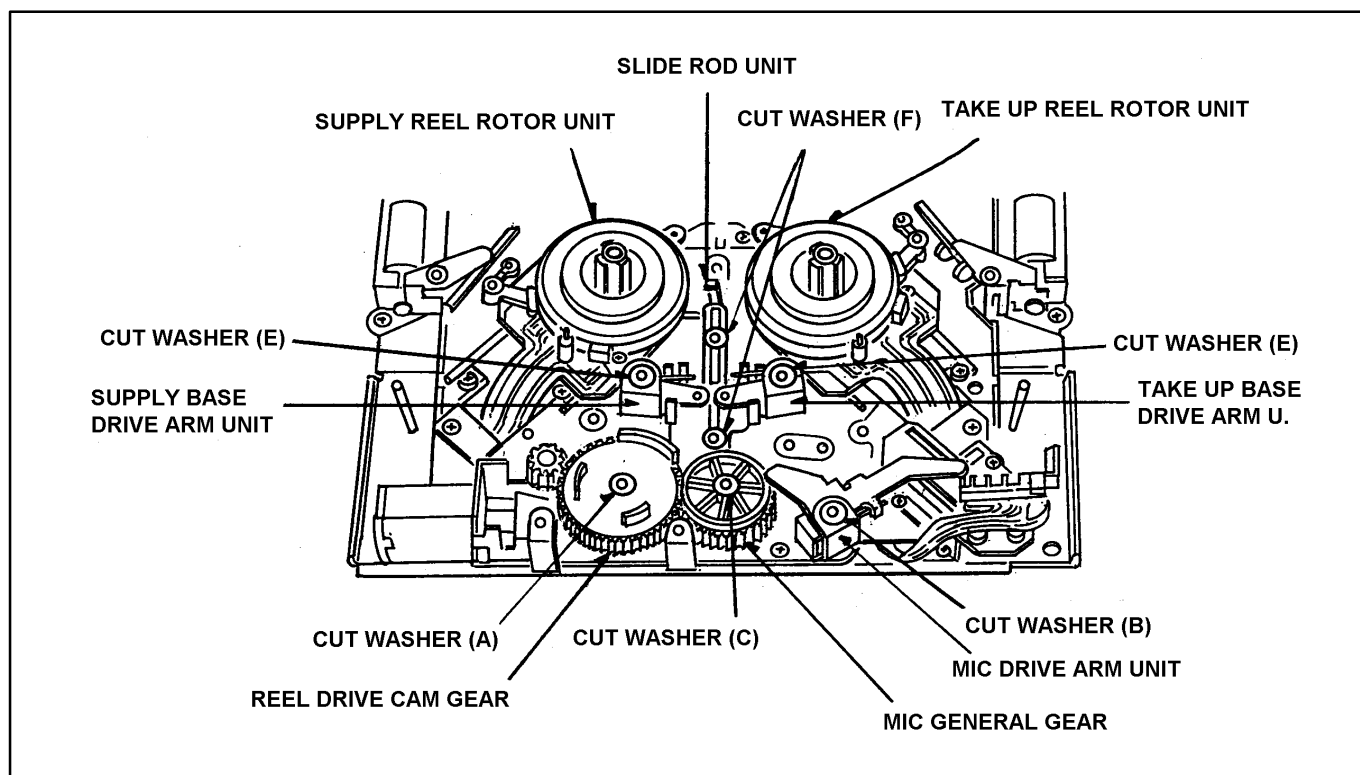

Figure 1-29-1
1. Remove the L-M Release Angle Unit. (Refer to item 1-28)
2. Remove the Reel Drive Sensor P.C.Board. (Refer to item 1-27).
3. Remove the Cut Washer (A) and remove the Reel Drive Cam Gear as shown in Figure 1-29-1.
4. Remove the Cut Washer (B) and remove the MIC Drive Arm Unit as shown in Figure 1-29-1.
5. Remove the Cut Washer (C) and remove the MIC Geneva Gear as shown in Figure 1-29-1.
6. Install the Cut Washer (A), (B) and (C) as shown in Figure 1-29-1.